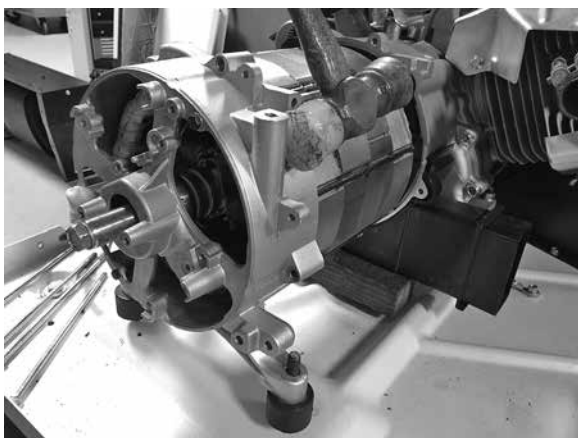

Figure 127.
- f. Remove the four (4) stator holding bolts from the bearing carrier. Refer to Figure 127.